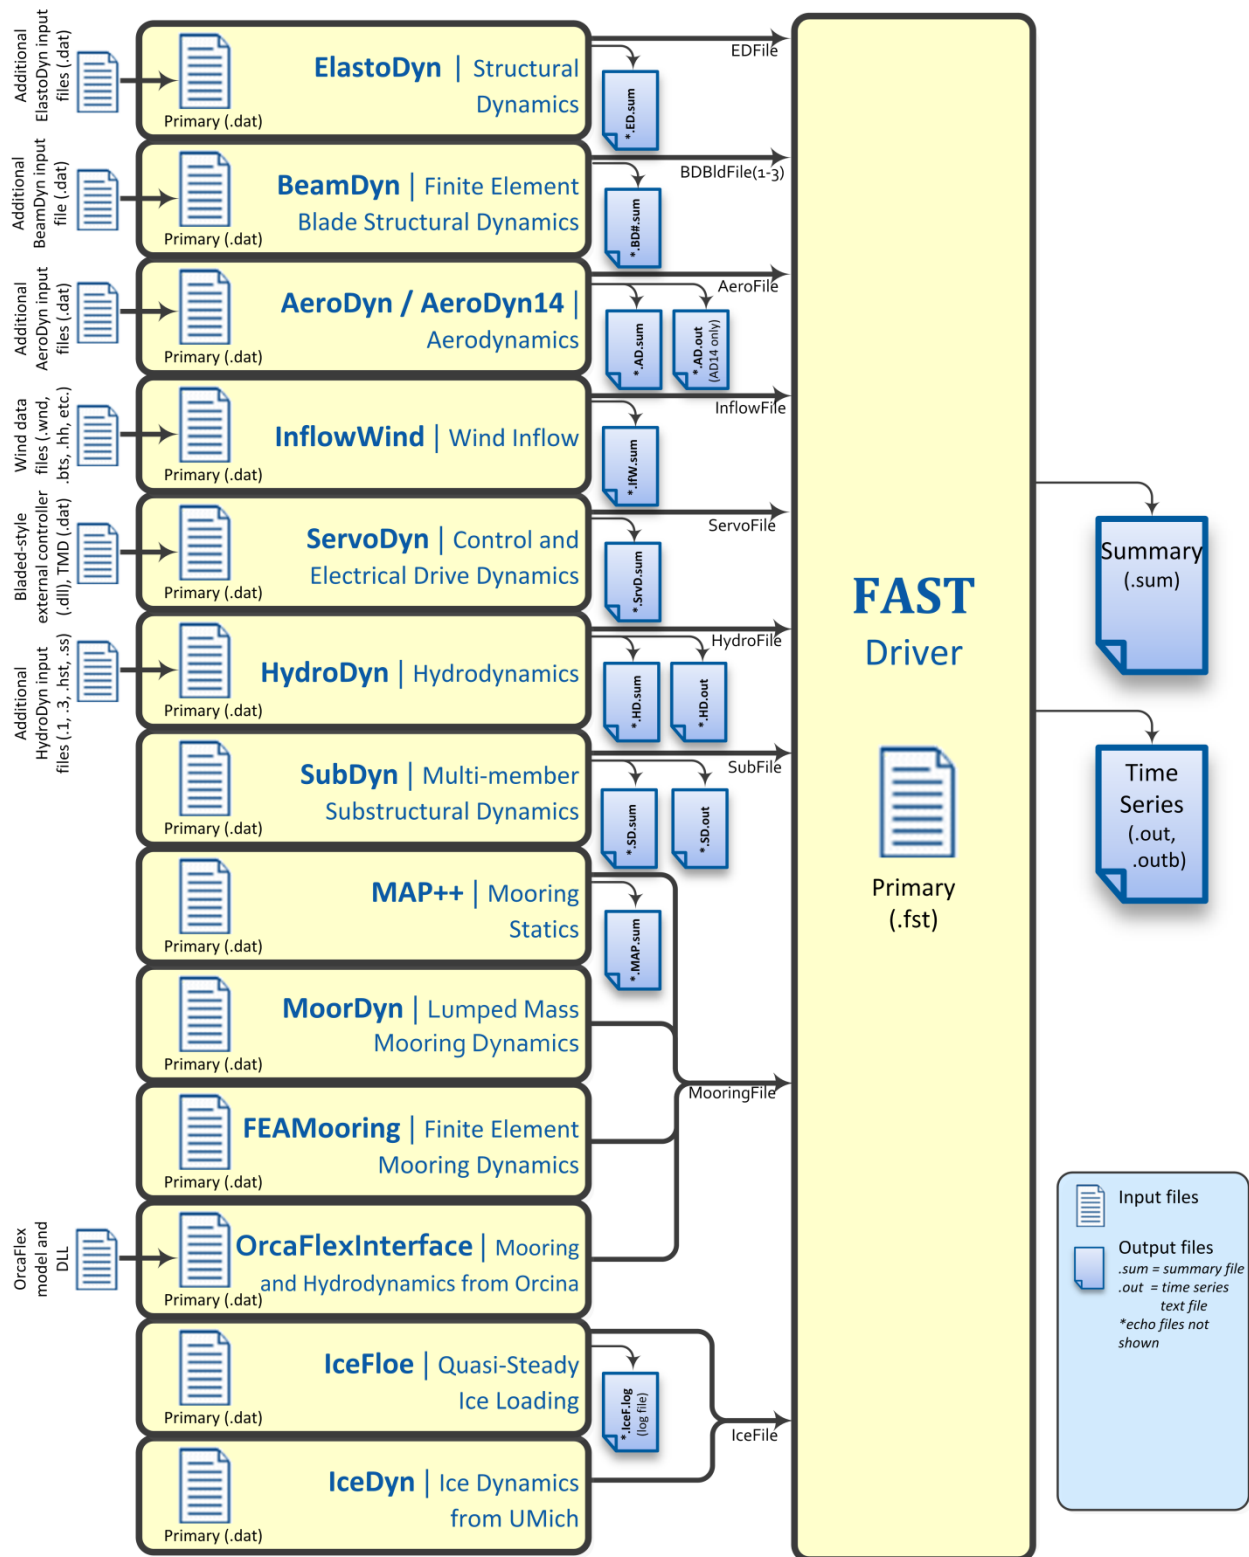

Figure 4: Summary of Input and Output Files for FAST v8.12.00a-bjj
- The names of output files generated by both FAST and its modules have been standardized, see Figure 4 and section “FAST v8 Input and Output Files.”
FAST and each of its modules have their own input files; see Figure 4.